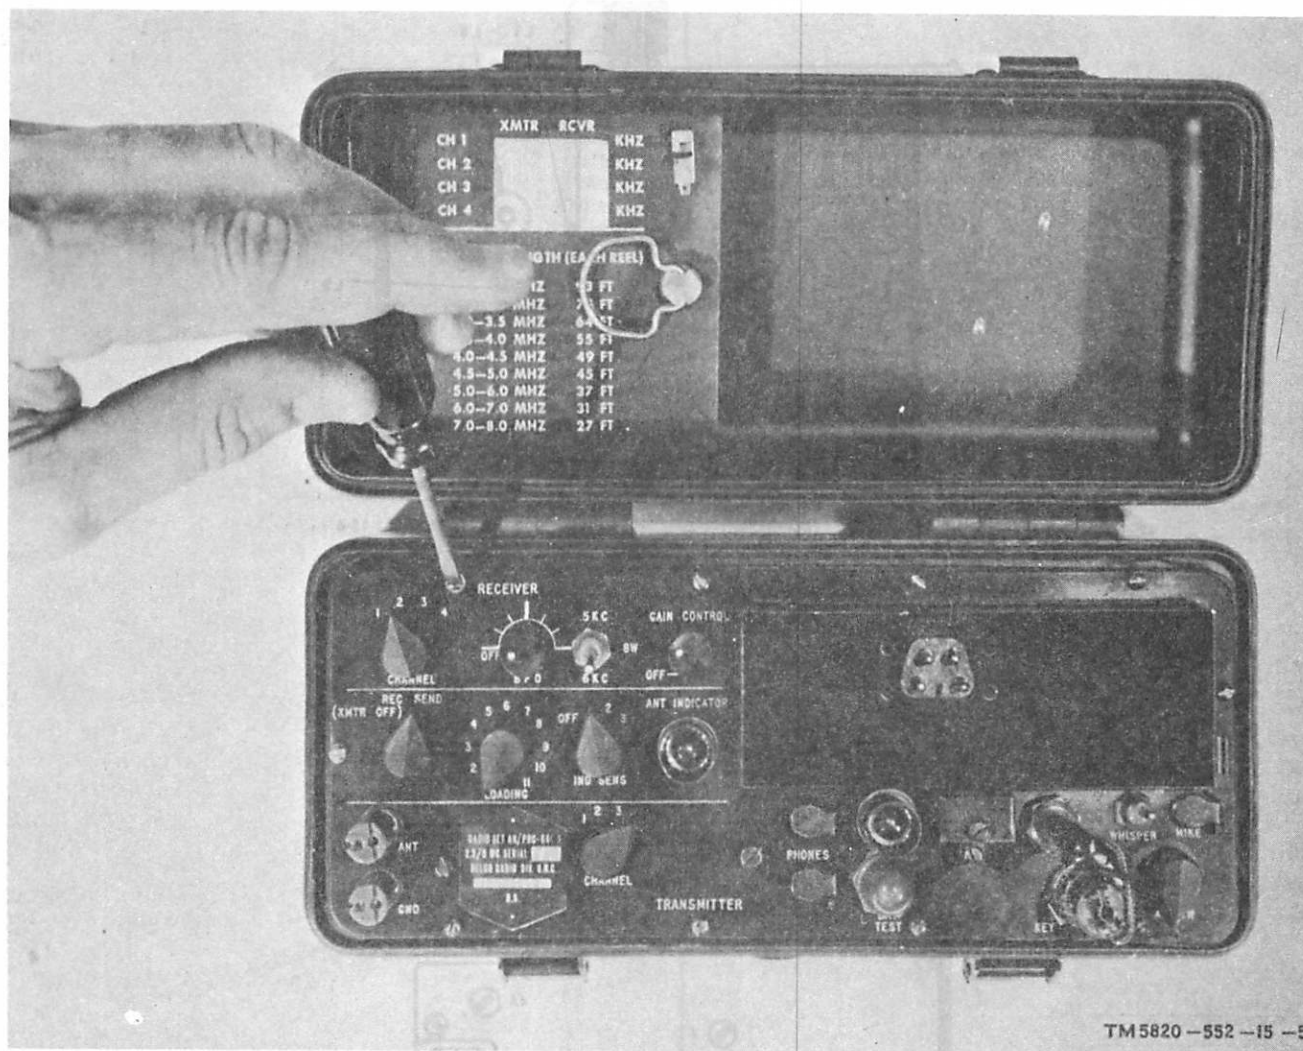
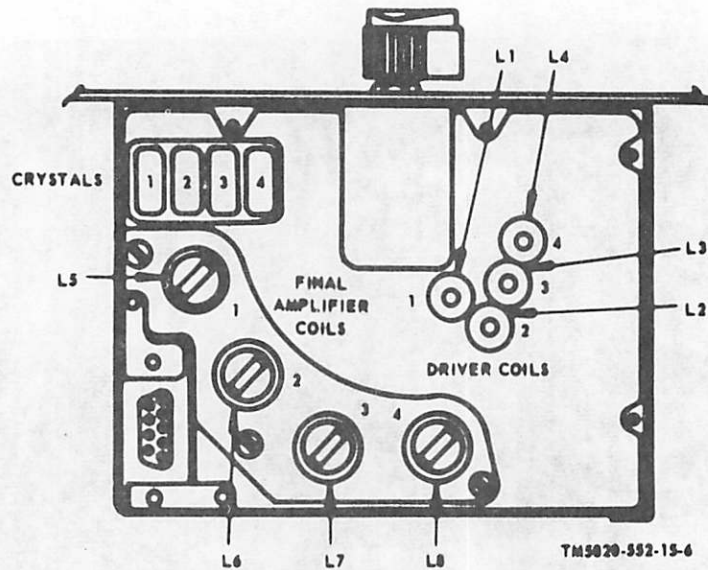

Figure 2-2. Radio Set AN/PRC-64A, top plate assembly removed.
Figure 2-3. Transmitter crystals, installation and alignment.
(figs. 2-2 and 2-3)
b. Remove ten screws which hold the top plate assembly to the case (fig. 2-2) and lift out the entire top plate assembly. Place the assembly on a bench or tabletop (fig. 2-3).
c. Install up to four type CR-89/U crystals in the transmitter crystal sockets (fig. 2-3). Each channel covers only a specific frequency range as follows:
For each channel use only crystals having frequencies with the range shown. Note in figure 2-3 that the crystal sockets are marked with channel numbers.
h. Refer to figure 2-3. Using the alignment tool located in the radio set case, adjust driver coil "1" and final amplifier coil "1" for maximum brightness of the ANT INDICATOR lamp while holding down the internal CW key. Turn the IND SENS switch to the lowest number giving an indication and again adjust the two coils until a maximum brightness is obtained at the lower sensitivity level.
j. Repeat the procedure for channels 3 and 4, using the appropriate positions of the CHANNEL switch and adjusting the coils indicated in figure 2-3. Use the same procedure as indicated in h above.